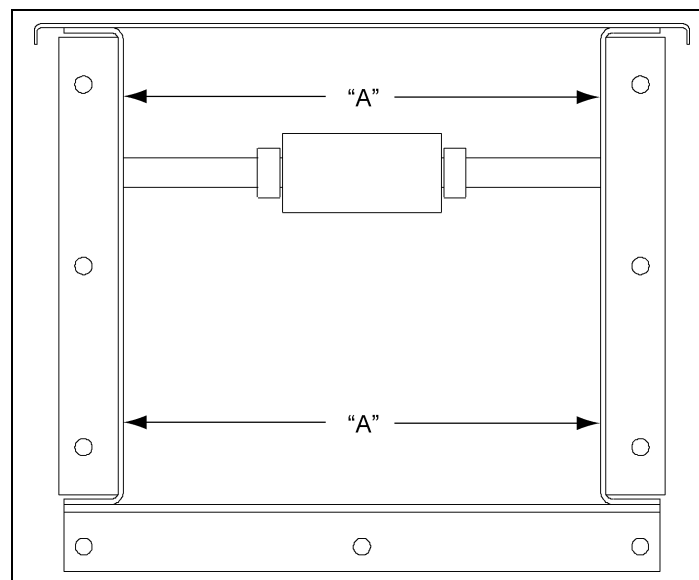

Figure 6D
**NOTE:** *When installing UHMW roller returns, check that they are centered within the box. It is important that the inside dimensions of the box are equidistant from the bottom plate to the roller/slide rail shafts. (See Figure 6D.)*